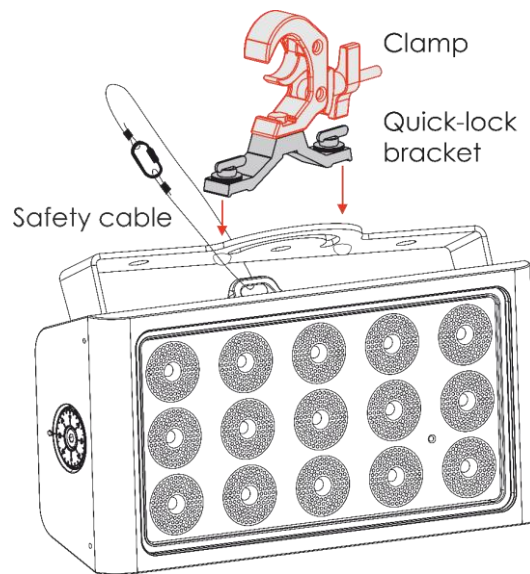

Fig. 05
- 01) Use a clamp to attach the device to the supporting structure, as shown in Fig. 05. Make sure that the device cannot move freely. The use of a quick lock bracket is optional.
- 02) Secure the device with a secondary suspension, for example a safety cable. Make sure that the secondary suspension can hold 10 times the weight of the device. If possible, the secondary suspension should be attached to a supporting structure independent of the primary suspension. Put the safety cable through the **safety eye (05)**, as shown in Fig. 05.